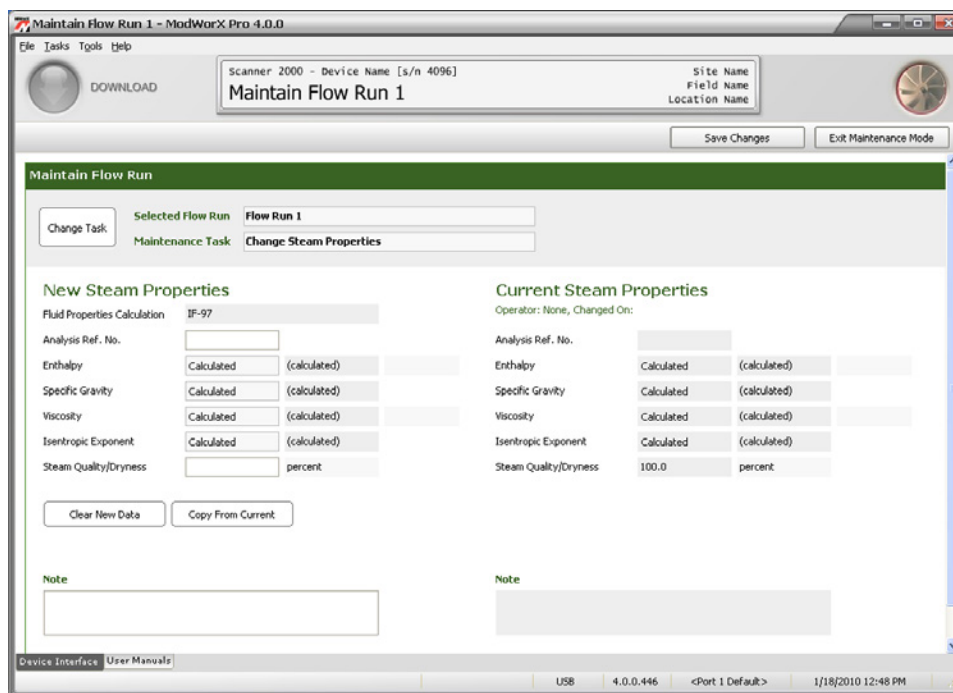

Figure 9.11
- b. Click **OK** to save the settings and return to the Maintain Flow Run screen (Figure 9.11).